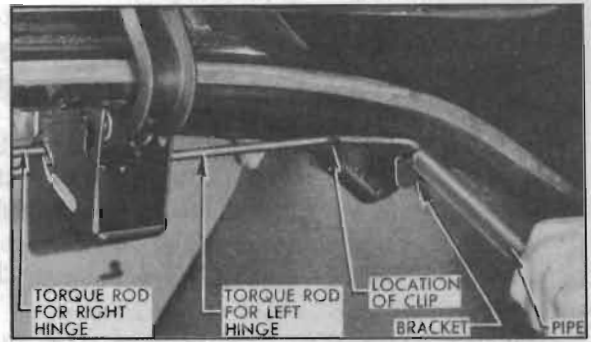

Figure 13-12—Removing Hinge Torque Rod
3. Place a short length of pipe over outer end of torque rod and lift the rod up and toward center of body to release it from the bracket. See figure 13-12.